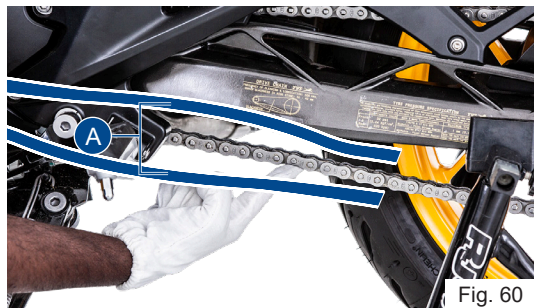

Fig. 60
- Using the fingers, check the slackness of the chain at the lower portion, midway (A) between the sprockets (ref. Fig. 60).
- The slackness (A) should be between 30 to 40 mm at the various points of the chain.